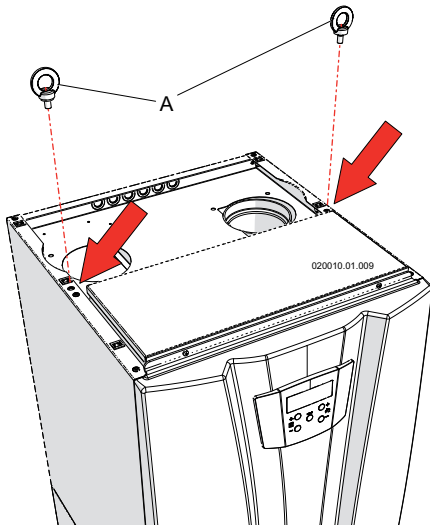

Figure 6-3 Install eyebolt to lift the appliance
4. take the two factory supplied eyebolts "A" (Figure 6-3) and install them on the upper side of the heater (see Figure 6-3);